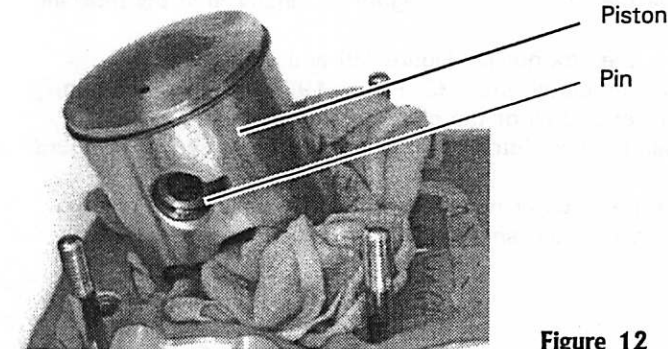

Figure 12
3. Hold the piston and push the piston pin (Figure 12) out of the piston. Use a suitable size socket and extension or wooden dowel pin.
4. Remove the piston (Figure 12) and needle bearing.